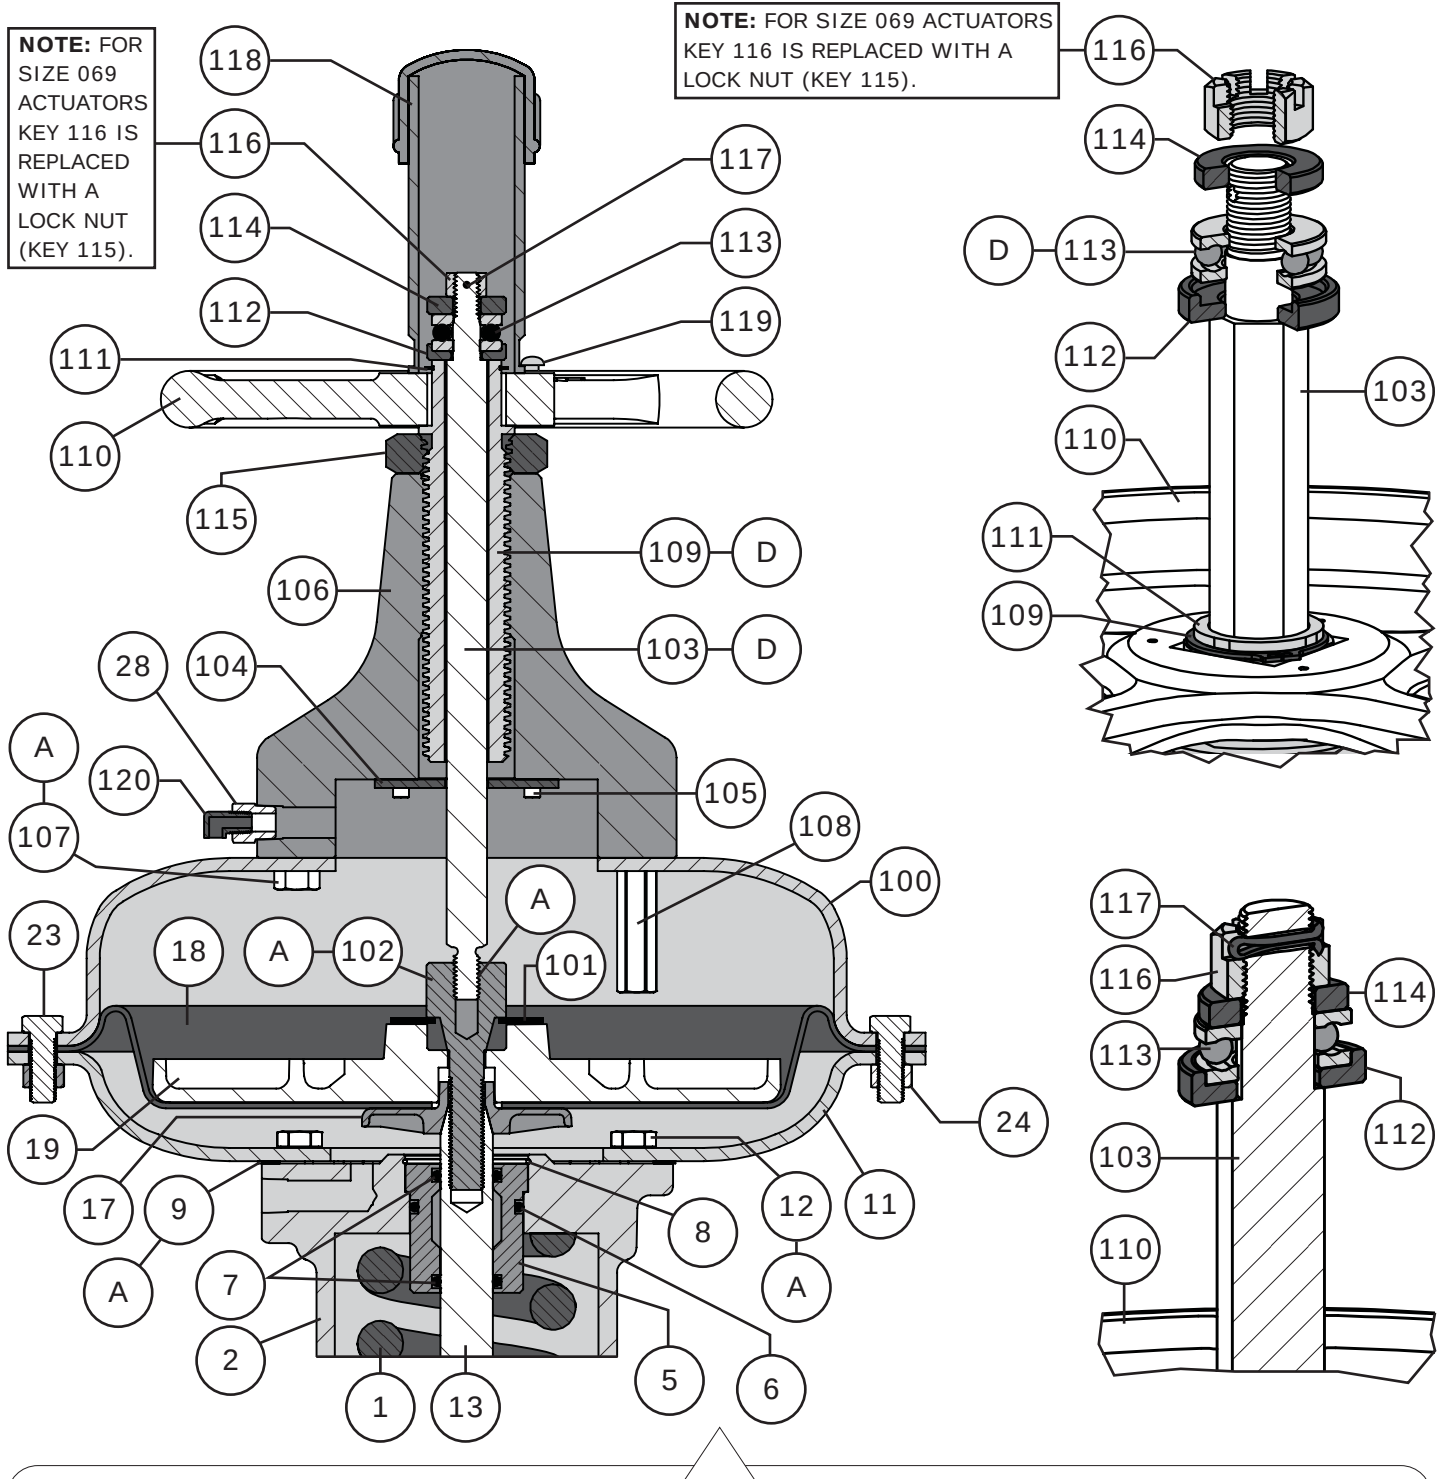

Figure 28 Top-Mounted Handwheel Cross Section
TOP-MOUNTED HANDWHEELS (Refer to Figure 28)
Stem travel limits can be adjusted and set by rotating the handwheel to a desired position and then tightening the lock nut (Key 115) into the body (Key 106) of the handwheel (refer to Figure 28). By extending the adjustment screw (Key 109) and then locking it in place by tightening the lock nut, the length of travel can be shortened.
- 1 Place the flat washer (Key 101) on top of the upper diaphragm plate (Key 19) as shown in Figure 28. **NOTE:** A flat washer is only included for Size 220 actuators with 2 and 3 inch travel.